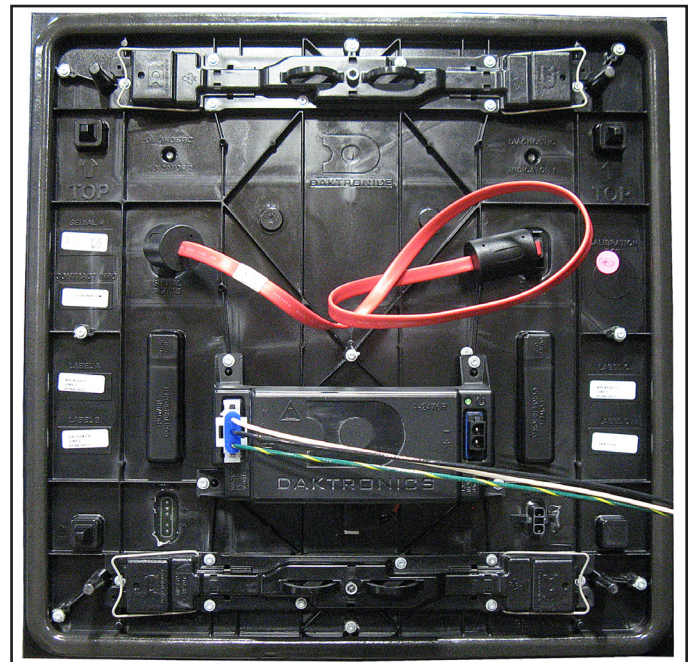

Figure 26: Module Self-Test
1. Attach a SATA cable to Port A and Port B on the module, as shown in **Figure 26**.